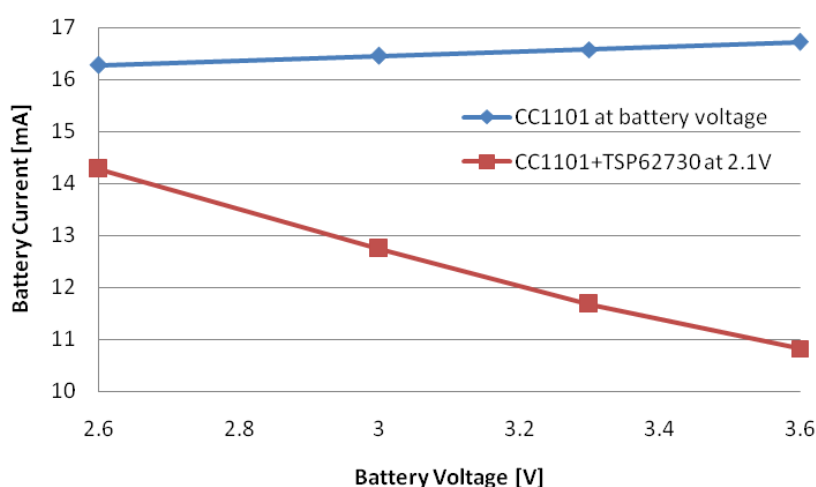

Figure 1: Typical RX Battery Current vs Battery Voltage
- In RX, the current drawn from a 3.6 V battery is typically less than 11 mA when **TPS62730** output voltage is 2.1 V. When connecting **CC1101** directly to a 3.6 V battery the current drawn is typically 17 mA (see Figure 1)